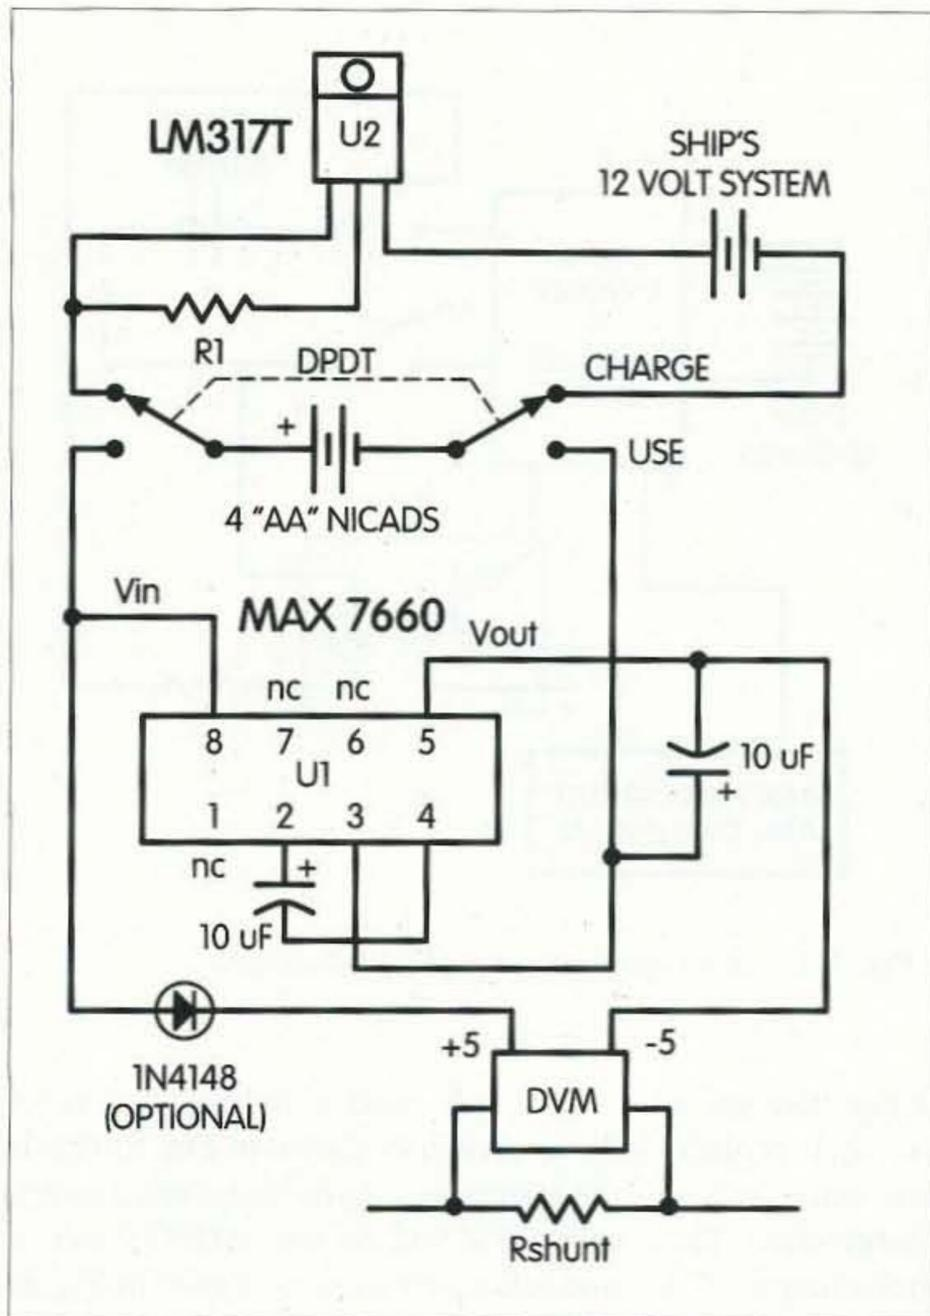

Fig. 4. Powering the 9 V DVM with four NiCds.  $I_{chg} = 1.25/R1$  amps. For  $I = 40$  mA,  $R1 = \sim 30$  ohms, 1/4 watt.
*Four NiCds:* Rechargeable NiCd batteries seemed like a better power source, but nine-volt NiCds are scarce and expensive. If I used AA batteries to get nine volts, I would need eight cells: many batteries, much space and expensive. By building the circuit shown in Fig. 4, I was able to get nine volts from only four NiCds. U1 is a voltage inverter chip which produces